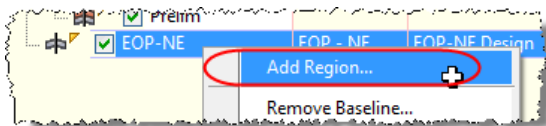

Figure 28
40. Right-click on the baseline and select **Add Region** (Figure 28).